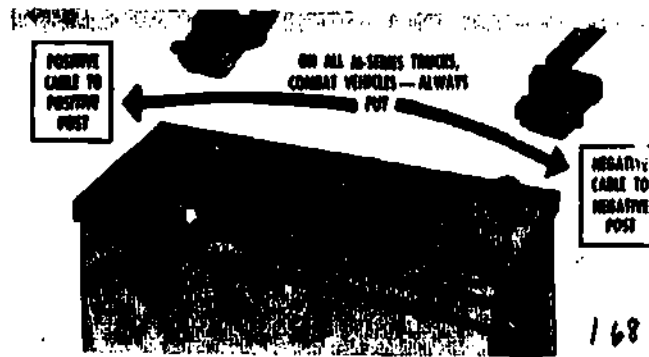

Fig 1-68. Positioning battery so that cables and battery posts correspond to each other.
b. **Installation Procedures.** Place the battery in the compartment in such a manner that the negative post will be near the negative cable and the positive post will be near the positive cable (fig 1-68). Once again, a carrying strap is recommended to make the battery much easier to handle.